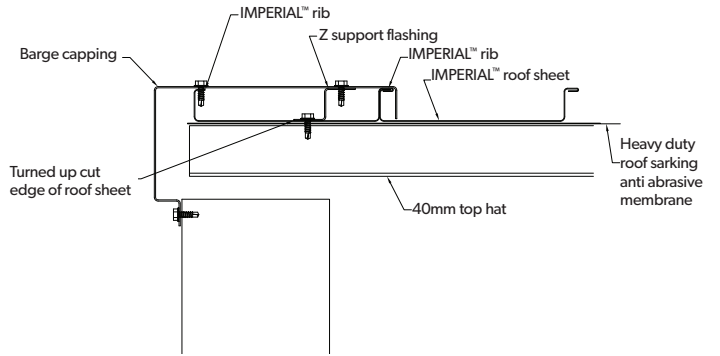

Figure 12.3.5:
2. Install a starter edge trim before attempting to fix the first panel (Figure 12.3.5).